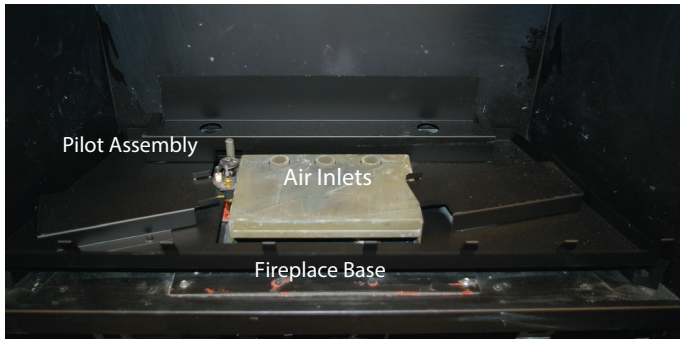
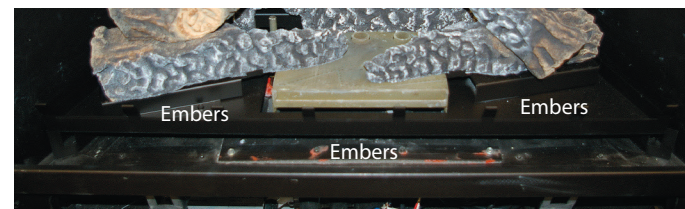

Figure 28a. H34DF's Fireplace Base.
Figure 28f. Placing Embers.
Step 7. Place the Embers as shown in figure 28f. Arrange the ember chips on top of the burner tray. Care should be taken when placing the embers, as blocked burner ports may cause an incorrect flame pattern, carbon deposits and delayed ignition. Also, the embers must NEVER be placed in a way that obstructs any of the air inlet ports, located at the rear of the burner, as shown in figure 28a.